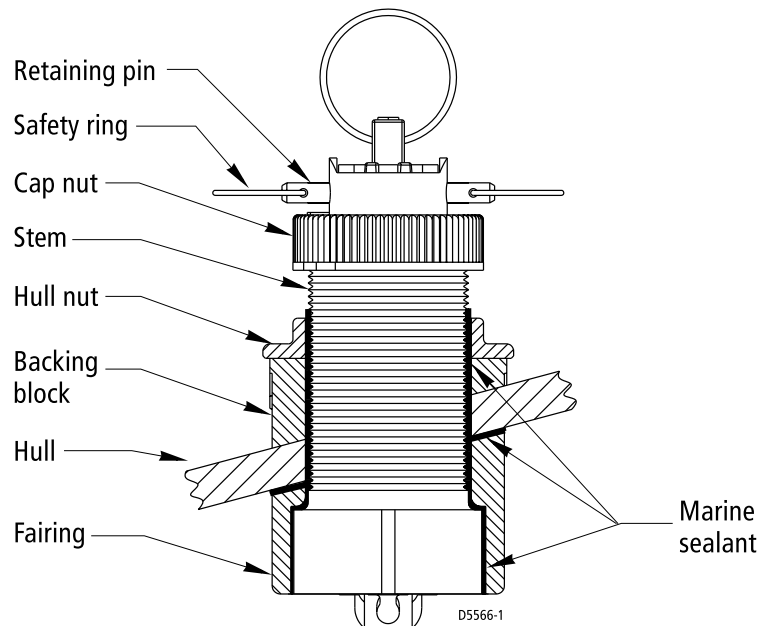

Figure 2-13: Seating
4. Remove one safety ring, the retaining pin, the cap nut, and the hull nut from the transducer (see Figure 2-13).
3. Apply a 1/16" (2mm) thick layer of marine sealant to the sides of the transducer that will contact the fairing, if used, and up the stem 1/4" (6mm) higher than the combined thickness of the fairing, hull, backing block, and hull nut. This will ensure there is marine sealant in the threads to seal the hull and hold the hull nut securely in place (see Figure 2-13).